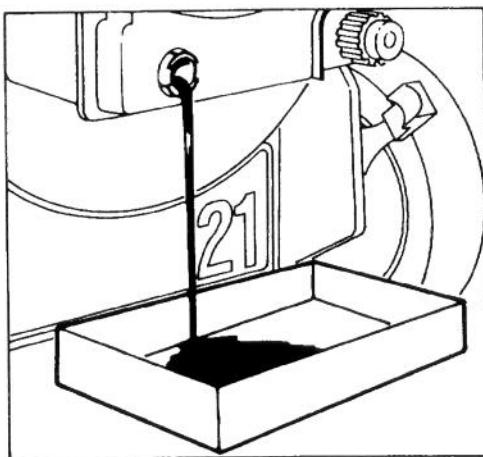

Figure 13
3. Remove dipstick. Tip mower forward and empty all oil into drain pan (Fig. 13). Tip mower down and up a few times to ensure oil drains completely.